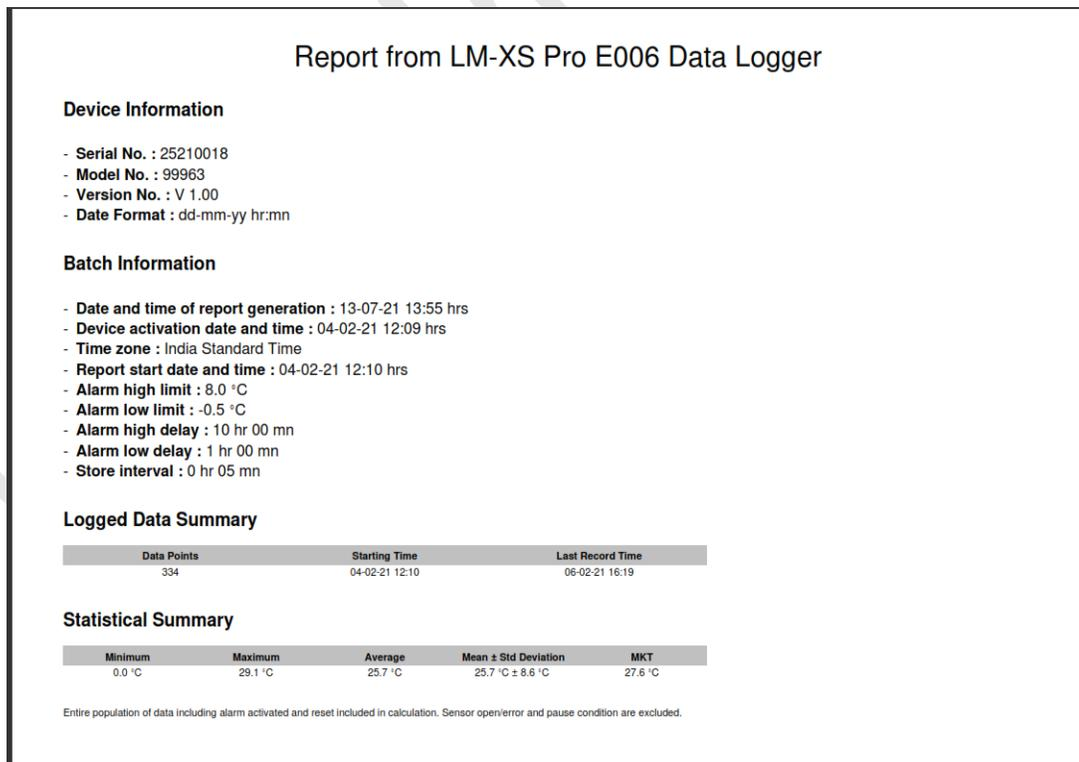
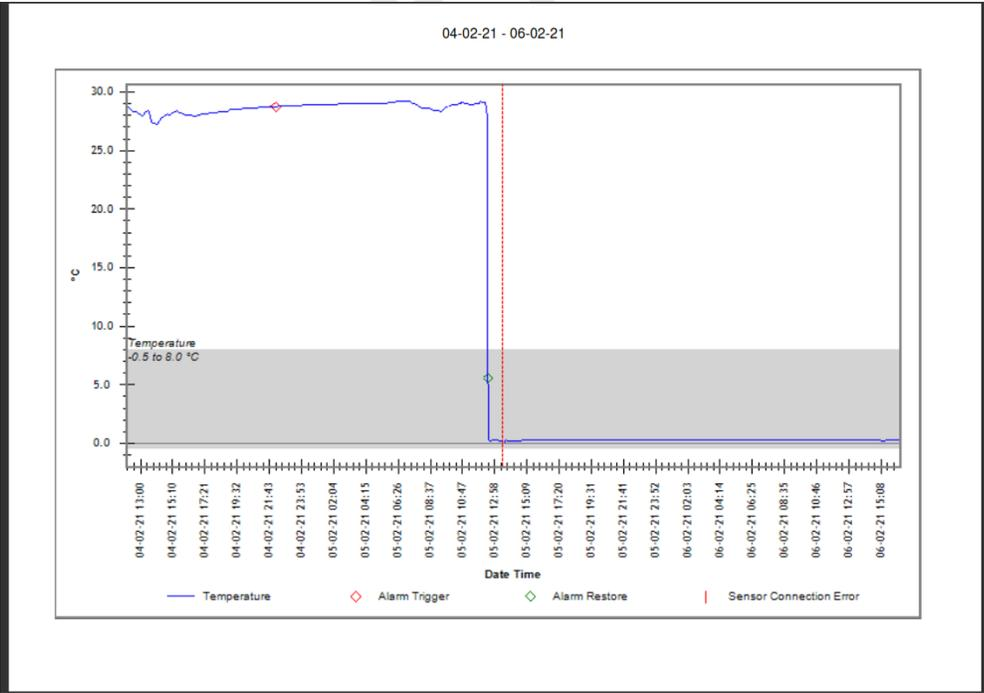

Figure 25 Sample PDF report part -1
Figure 27 Sample PDF report part -3
➤ Sample PDF file generated from LM-XS Pro E006 Data logger for 3 days recorded data is shown in figure 25, figure 26 and figure 27. This report consists of following data:
- The gray band in graph shows area inside alarm low and high limit. Indications for alarm trigger, alarm restore, sensor connection error are specified in graph labels as shown in figure 27.